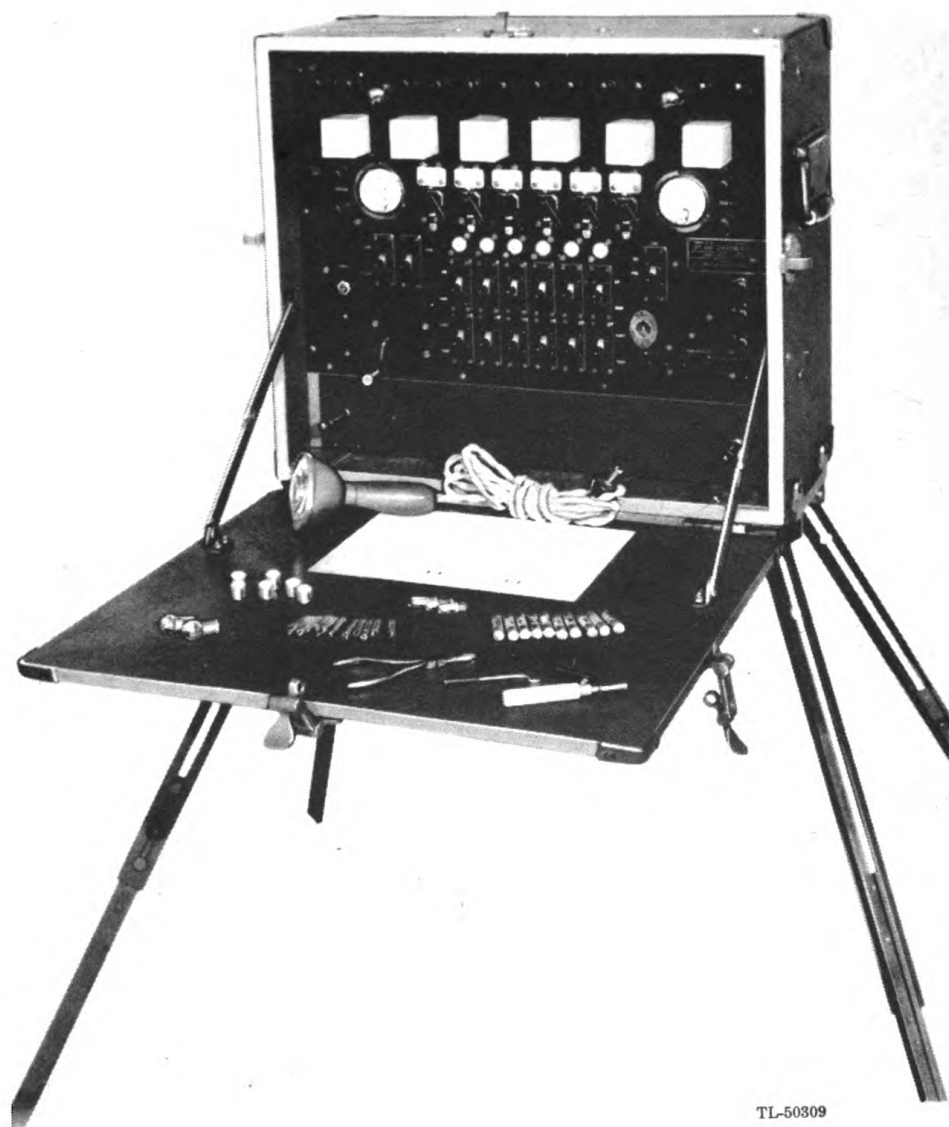

FIGURE 1. Switchboard BD-70 (Flash Ranging).
3. SWITCHBOARD BD-70.—a. General.—Switchboard BD-70 (fig. 1) is a flash ranging switchboard for use at the central station to permit telephone conversations between the switchboard operator and observers at outlying posts. The switchboard is arranged to connect the operator's telephone set to any of the six field telephone lines, equipped with Telephones EE-8- (*), for talking or ringing. Magneto drop and line lamp signals are supplied for each line and serve as signals of an incoming call. A hand generator is provided for ringing the outlying station.